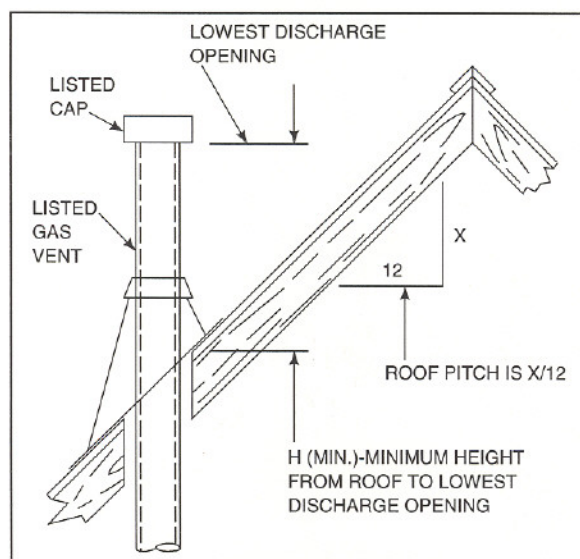

Figure 15
10. Termination cap. Major building codes specify a minimum chimney height above the roof top depending on roof pitch. See Figures 15 and 16.